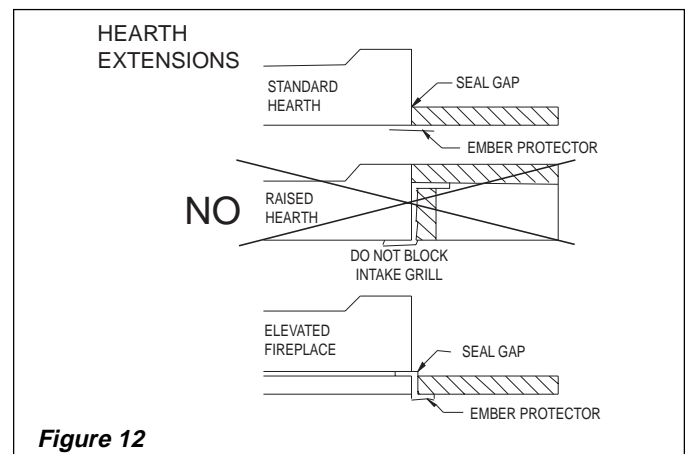

Figure 12
STEP 4: When the firebox is installed upon a combustible floor a galvanized steel ember protector (provided) must be installed between the firebox and the hearth extension as illustrated in Figures 12 and 13.
A hearth extension projecting a minimum of 20" in front of and a minimum of 12" beyond each side of the fireplace opening is required to protect combustible floor construction in front of the fireplace. Use a layer of noncombustible, inorganic material having a thermal conductivity of $K=0.64 \text{ BTU IN/FT. HR. F}$ (or less) at 1" thick. Example of determining hearth extension equivalent. If the material selected has a K factor of 0.25, such as glass fiber, then the following formula would apply: $0.25/0.64 \times 1" = .39"$ thick. This must be covered by a noncombustible material such as tile, slate, brick, concrete, metal, glass, marble, stone, etc. Fasten the hearth extension to the floor to prevent shifting and seal the gap between the fireplace frame and hearth extension with a noncombustible material (see Figure 12).